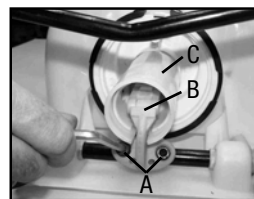

Figure 1
1) Remove the cotter pin and pump handle. With the pump facing towards you lay the unit on its back (Figure 1). Loosen the hose clamp and remove the sprayer hose. Caution: There could be residual liquid in the hose and pressure cylinder. Remove the nut and bolt from the protective cap and remove the cap (ref: figure 9). Rotate the pump shaft in order to reach two lever bolts (A). Using an allen wrench (C), remove the lever bolts. Pull the piston assembly (B) out of the piston cylinder (C).